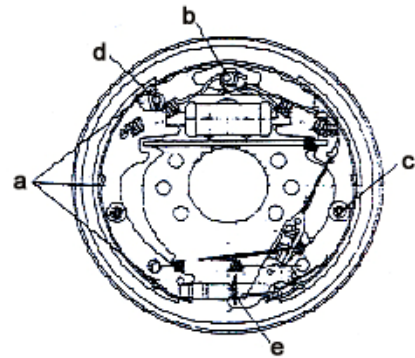

Figure 2-20
- (1) Coat the cup and piston on the brake cylinder with brake fluid and assemble the spring, piston cup, piston and protection loop in sequence.
- (2) Mount brake cylinder on the brake backing plate.
- (3) Mount the brake backing plate on the drive axle.
- (4) Coat all the positions as shown in Figure 2-20 with heat-resistant grease, and be careful not to smear any oil on the friction disk.